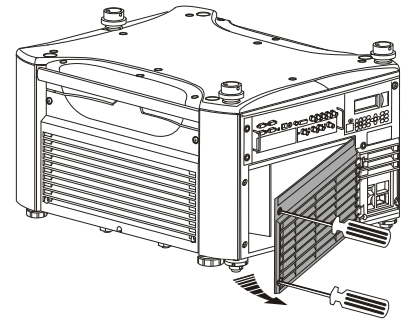

Figure 4.2. Open Lamp Door
Using a #2 Phillips screwdriver, loosen the ¼-turn lock screws (2) securing the lamp door, which is located at the rear of the projector below the input panel. See **Figure 4.2**.